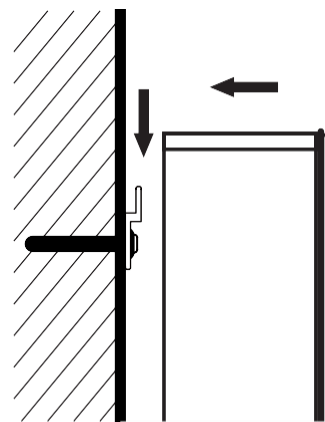

Fig. 3
- 2.1 Attach the mirror cabinet to the bar as shown in Fig. 3, open the cabinet door, and mark on the wall with a pencil (Fig. 4) through the backplane hole (a).
- 2.3 Repeat the operation as shown in Fig. 3 and mount the mirror cabinet to the bar, make sure that the circuit on the wall is not energized and connect the three-core wire reserved on the wall to the three-core wire terminal block on the product (Fig. 6), and then tighten the screws on the backplane.